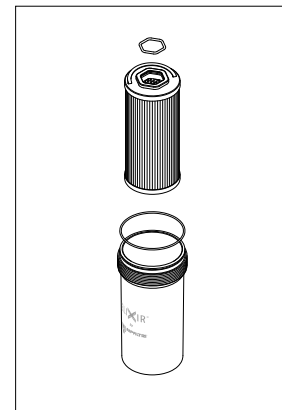

fig. 15
- (Fig. 15) Fit the O-ring in the bowl groove, insert the Hex-ring in the filter element cap